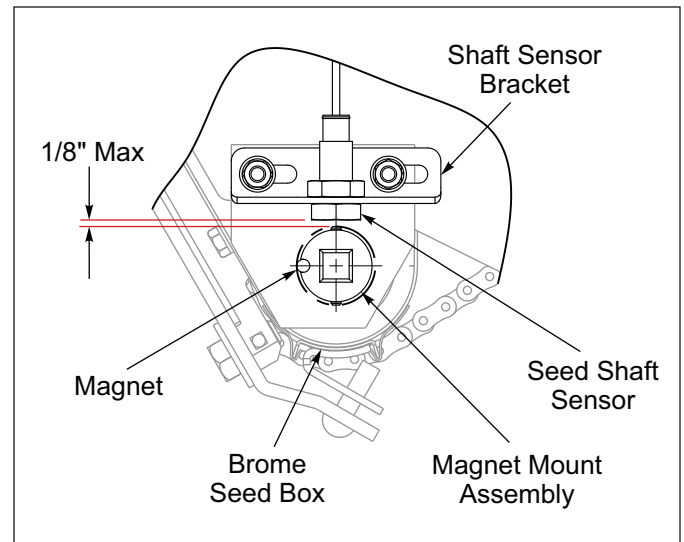

Figure 2-39: Console w/Clutch Control RH Rear Seed Shaft Sensor Detail
12. Slide/Position Seed Shaft Sensor so it is 1/8" from the magnet. **See Figure 2-39.** Tighten both Retaining Nuts.